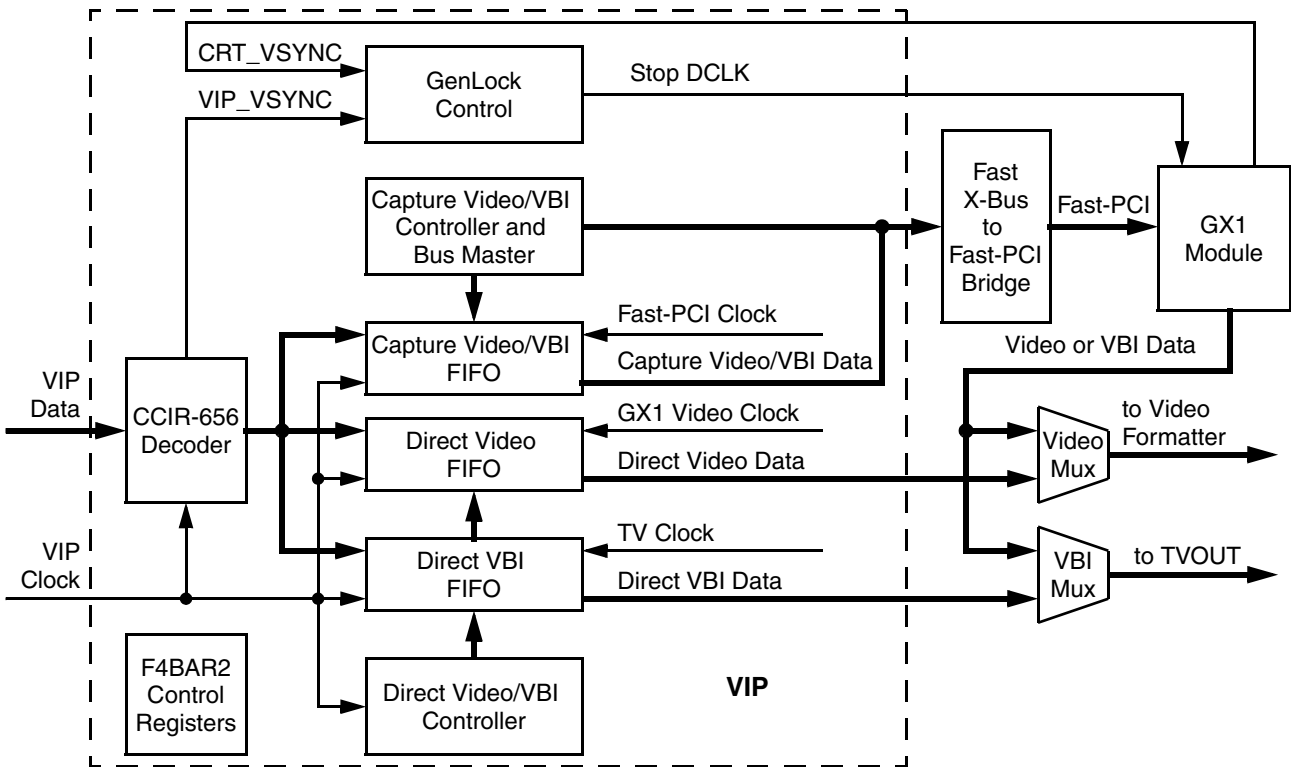

Figure 7-4. VIP Block Diagram
The VIP block is designed to interface the SC1200/SC1201 processor with external video processors (e.g., Philips PNX1300 or Sigma Designs EM8400) or external TV decoders (e.g., Philips SAA7114). It inputs CCIR-656 Video and raw VBI data sourced by those devices, decodes the data, and delivers the data directly to the Video Formatter (Direct Video/VBI modes) or to the GX1 module's Video Frame Buffer (Capture Video/VBI modes). Figure 7-4 shows a diagram of the VIP block.
2) The altered VBI data can be sent to the TVOUT block of the Video Processor via the video frame buffer or graphics frame buffer. See VIP block diagram (Figure 7-4 on page 315). The Closed Captioning data could be altered and then sent out this way. One reason to capture the Closed Captioning data would be to do a language conversion. If the VIP block is in Capture Video mode then this option is not possible because the video frame buffer can be used for sending video or VBI, but not simultaneously.